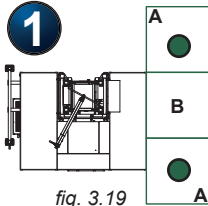
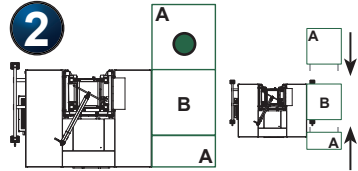

fig. 3.19
fig. 3.20
- 1- Remove the plank stop pins from two outriggers and slide the outriggers in the bottom outrigger pockets of the bridge assembly to be installed (shown as "A" in fig. 3.19 and in fig. 3.20), leaving about 6" (15 cm) jutting out from the bridge. Do not tighten the bolts.
- 2- Align the bridge with the installed bridge and slide the protruding ends of the two outriggers from the bridge assembly in the bottom outrigger pockets of the bridge already installed (shown as "B" in fig. 3.19 and in fig. 3.20). Insert a plank stop pin in each outrigger.